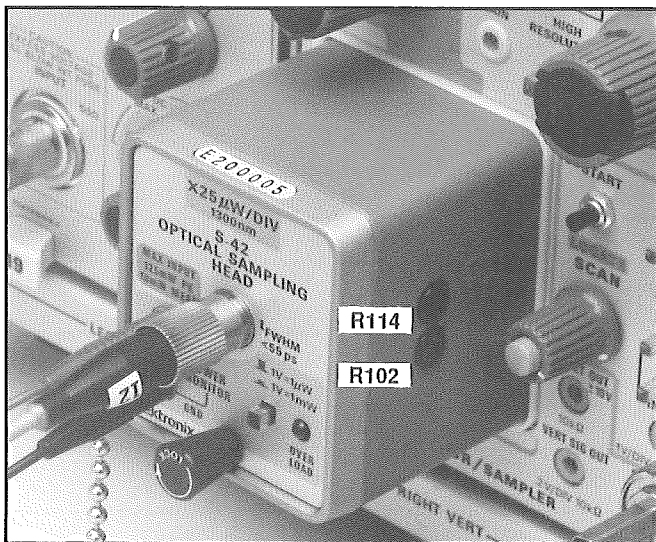

Figure 4-1. Locations of resistors R114 (Gain) and R102 (Offset) used in the adjustment of the optical power sensitivity.
The S-42 is initially calibrated for use in a 7S11 plugged into a 7000 Series mainframe operating at an ambient temperature of 25 degrees C. Any temperature deviation may change the dark current from the input Photodiode Assembly and cause the DC offset on the power out of Range 2 to be greater than 1 mV. This can be compensated for by adjusting R102 (see Fig. 4-1).
- c. If the Multimeter reading is outside this range, the sensitivity can be adjusted by removing the top blanking plug and adjusting R114 (see Fig. 4-1).